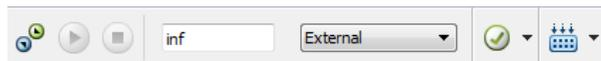

Figure 2.3: SIMULINK® model toolbar: connect to target and compilation
11. Run the QUARC® controller. To do this, go to the SIMULINK® model tool bar, shown in Figure 2.3, and click on the *Connect to target* icon and then on the *Run* icon. You can also go QUARC | *Start* to run the code. The Power LED on the QUBE-Servo 2 (or your DAQ card) should be blinking.